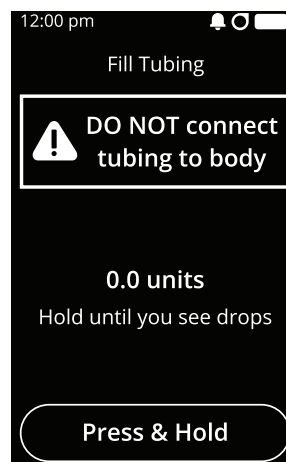

Figure 65
- a. Tap and hold the **Press & Hold** button to begin filling your tubing with insulin (see Figure 65). You will see drops appear from the needle of the insulin infusion set.